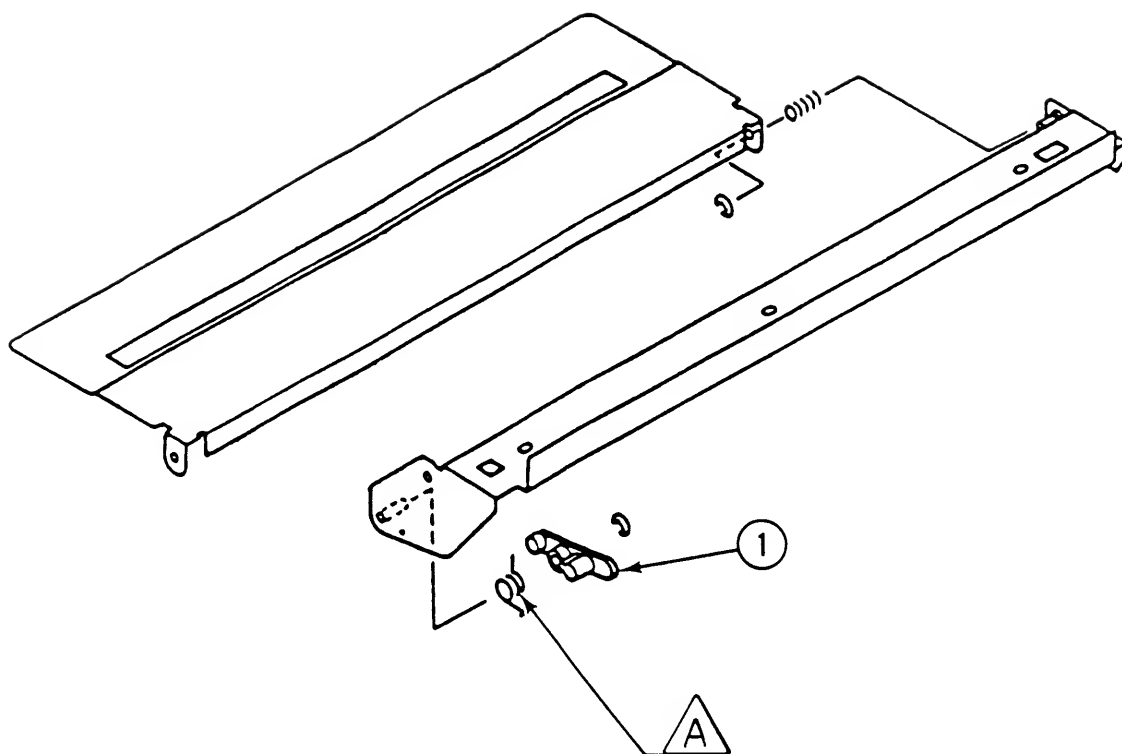

FIGURE 12
□ SHUTTER ASSEMBLY (Figure 12)